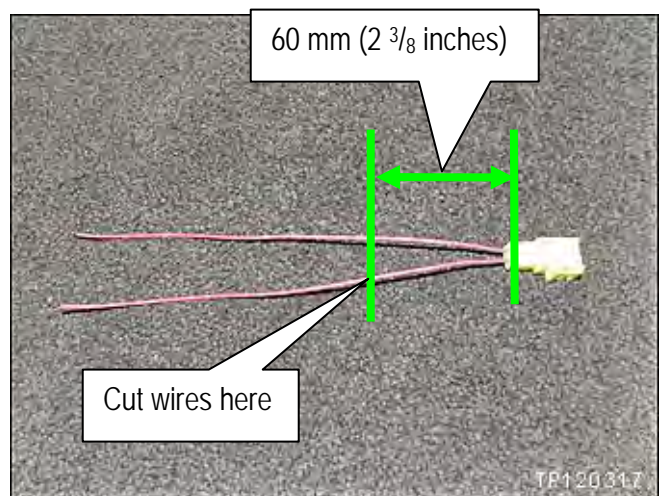

Figure CR14
- Cut the wires on the **new** SAB connector 60 mm ($2\frac{3}{8}$ inches) from the back side of the connector (see Figure CR14).